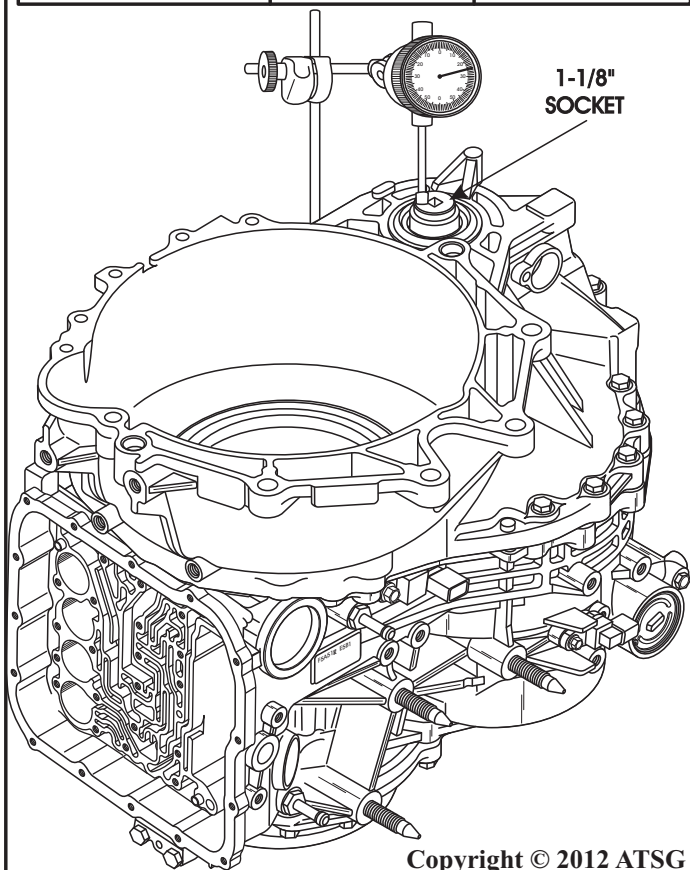

Figure 292
98. Install 1-1/8", 1/2" drive socket through the axle seal, as shown in Figure 292.
99. Install a dial indicator with the stem resting on the socket, as shown in Figure 292, and zero the dial indicator.
101. Choose a spacer from the chart in Figure 292 that is .002" - .004" thicker than your end play reading.